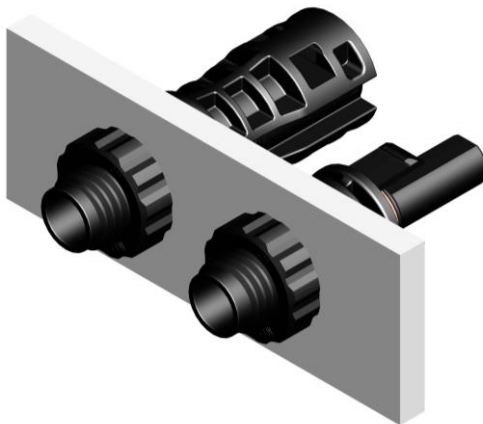

Figure 17
- ✧ 安装公/母面板连接器时，推荐用 2.0 Nm 的扭矩锁紧螺母。具体情况，需要由终端用户根据不同的面板验证合适的扭矩。(如图 17)
When installing the male or female panel connector, it is recommended to use 2.0 Nm torque lock nut. The appropriate torque has to be verified in the end use according to the respective housing. (Fig.17)